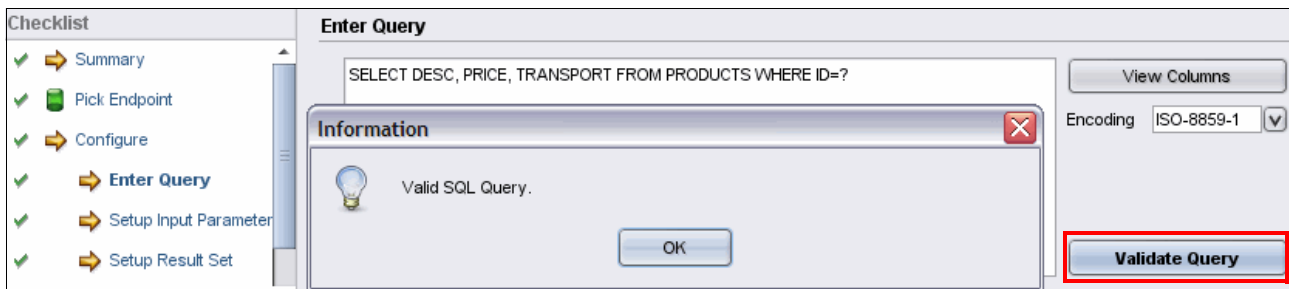

Figure 12-54 Validating the SQL query
5. Validate the SQL query by clicking the **Validate Query** button, shown in Figure 12-54.